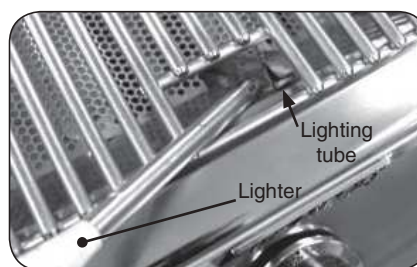

Fig. 17-2 - Manual lighting
**CAUTION:** Always wait five (5) minutes for gas to clear after any unsuccessful lighting attempt.
2. Insert either a burning long-barrel butane lighter or a burning long-stem match through the cooking grid opening to the top of the lighting tube. (Fig. 17-2). For backburners, hold the flame against the surface of the backburner.
4. If the burner does not light, **immediately depress the knob and turn the valve to OFF**. **WAIT FIVE (5) MINUTES** before repeating steps 2 through 4 of the **MANUAL LIGHTING** instructions.